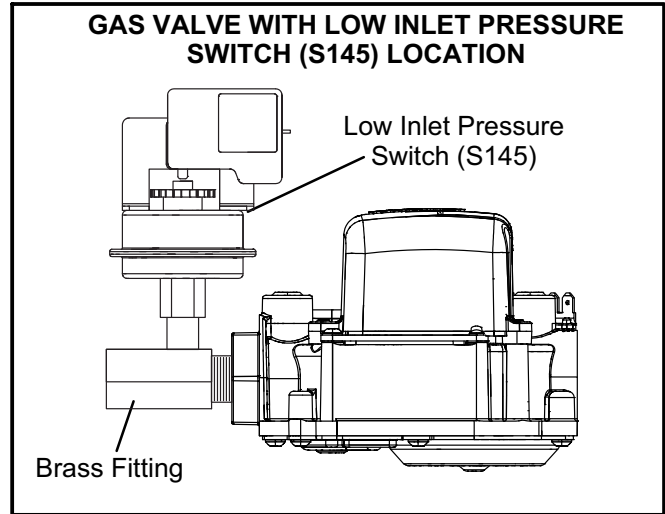
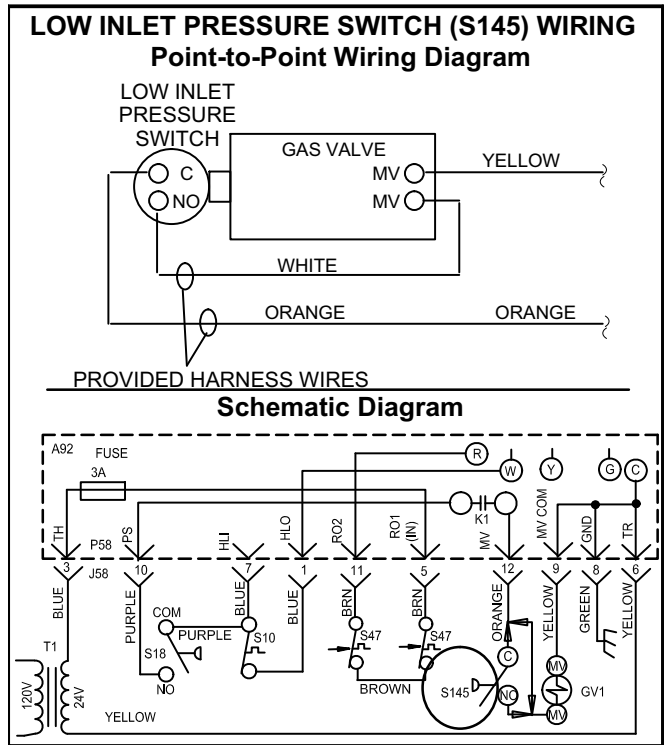

FIGURE 2
FIGURE 7
- 2 - Remove the heating compartment access panel. Turn the automatic gas valve switch to the **OFF** position. See figures 2 and 3.
- 8 - Attach provided brass fitting to gas valve inlet. Install the low inlet pressure switch (S145) to the brass fitting. See figure 2. Wire as shown in figure 7. *ML180, EL180 and 80AF1 units only* - angle the low inlet pressure switch downward about 30° to allow louver clearance for the pressure switch electrical connections.
- 9 - Re-install the manifold/valve assembly. Connect the two wires to the gas valve as shown in figure 7.
When testing supply gas pressure, use the 1/8" N.P.T. supply line tap located on the gas valve to facilitate test gauge connection. See figure 2. Check gas line pressure with unit firing at maximum rate. Low pressure may result in erratic operation or underfire. High pressure can result in permanent damage to gas valve or overfire.